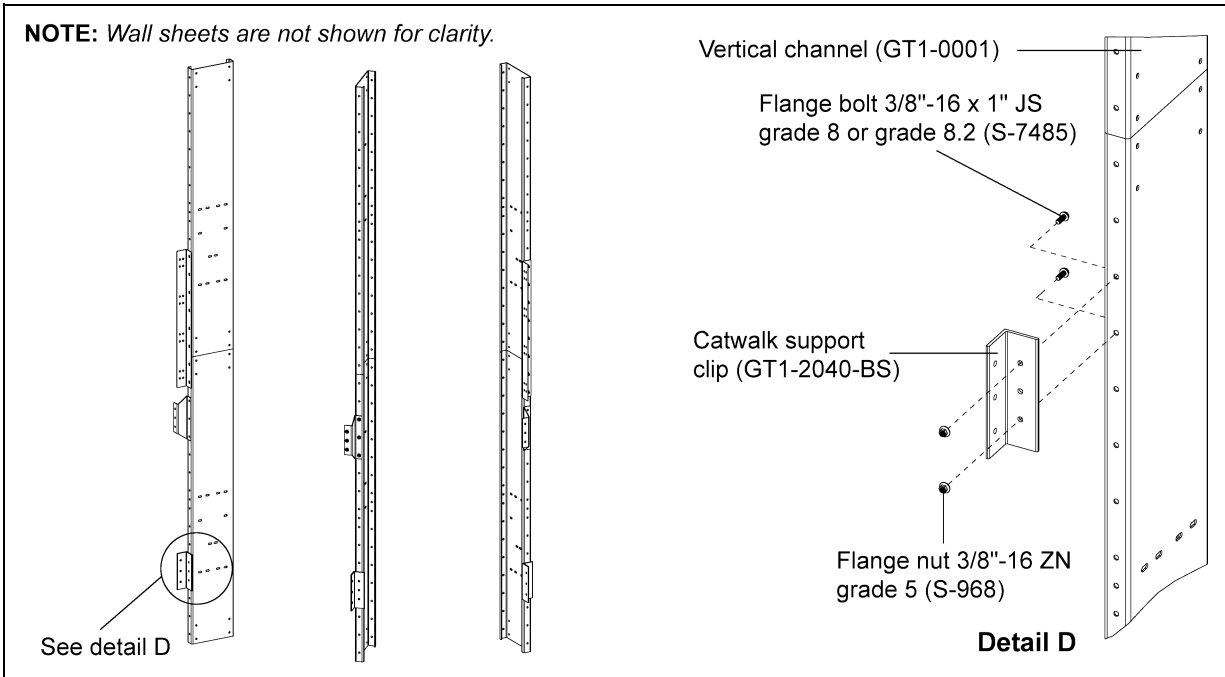

Figure 6G Offset Catwalk Support Clip Installation
1. Install the catwalk support clips (GT1-2040-BS) to the vertical channel (GT1-0001). Support clip can be installed on each vertical channel as the wall sheets are installed using 3/8"-16 x 1" JS grade 8 or grade 8.2 bolts (S-7485) and 3/8"-16 ZN grade 5 nuts (S-968). (See Figure 6G below and Figure 6I on Page 52.)